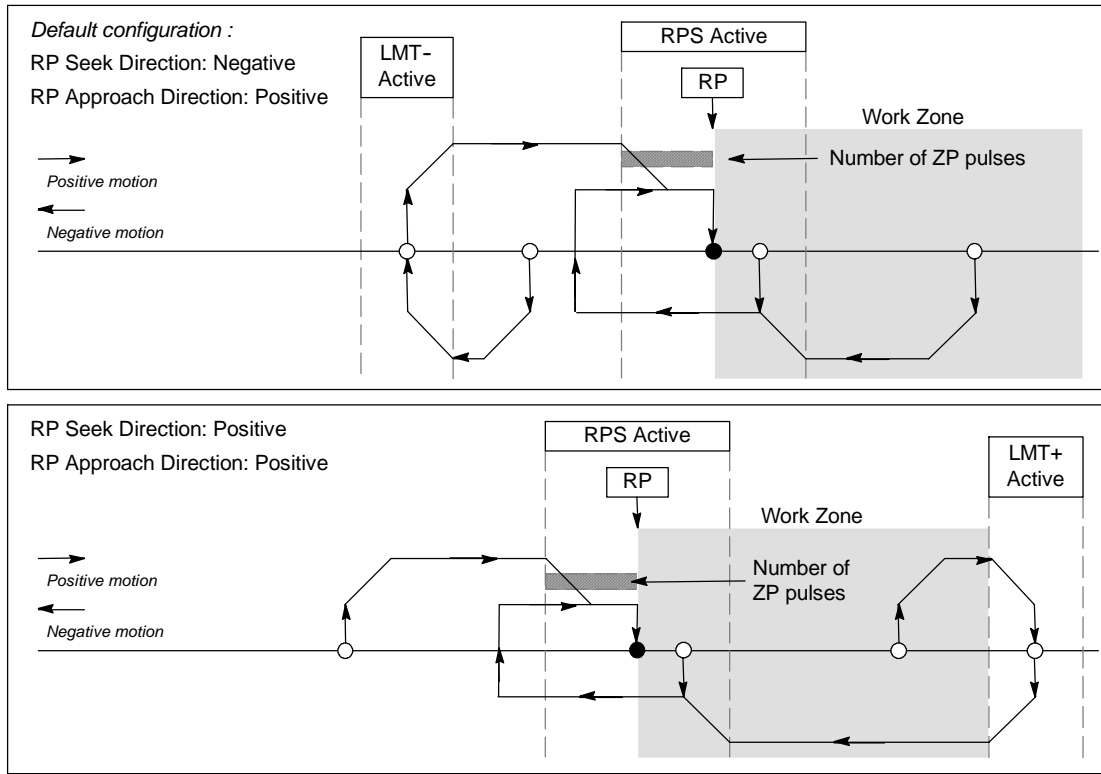

Figure 9-24 RP Seek: Mode 4
- ❑ Figure 9-24 shows two of the options for RP seek mode 4. This mode locates the RP a specified number of zero pulses (ZP) within the active region of the RPS input.